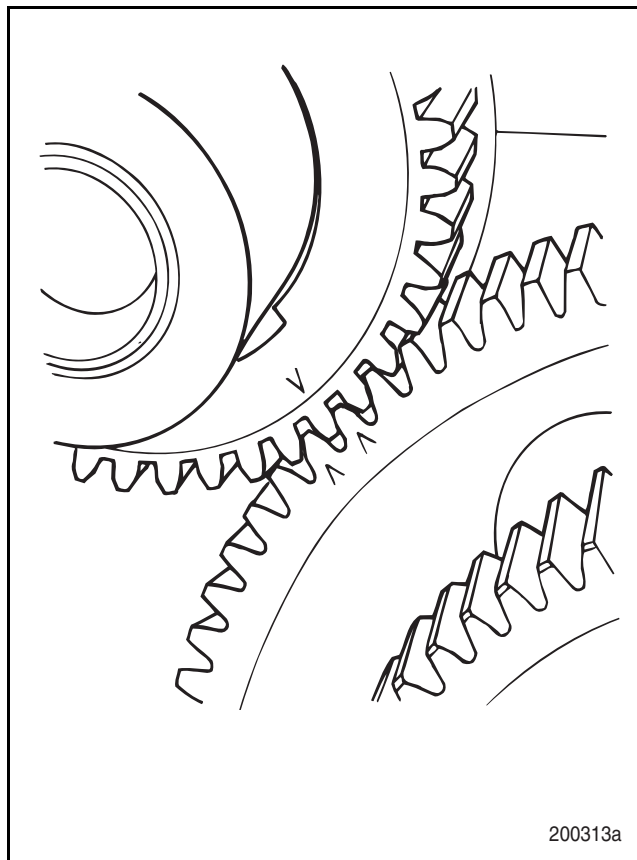

Figure 6-45 — Alignment of Timing Marks
Refer to Figure 6-45.
8. Carefully insert camshaft into the block with the camshaft installation tool in place. Align timing marks on the camshaft with timing mark on the main crankshaft drive gear. Refer back to Figure 6-45.